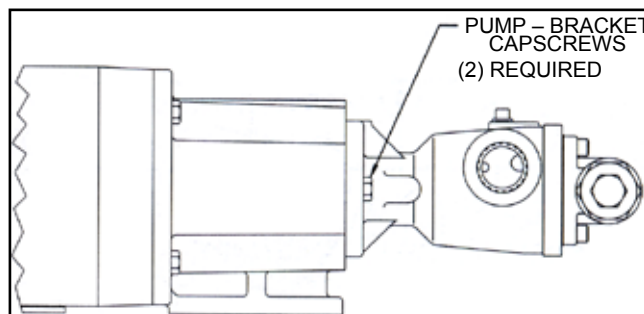

FIGURE 31
5. Be certain that the power supply to the pump is "Locked-out". Check that pump rotates freely by spinning motor fan blades or bearing carrier shaft. Finish the assembly by securing the pump to bracket (**See Figure 31**). Be certain that the power supply to the pump is "Locked-out". Check that pump rotates freely by spinning motor fan blades or bearing carrier shaft.